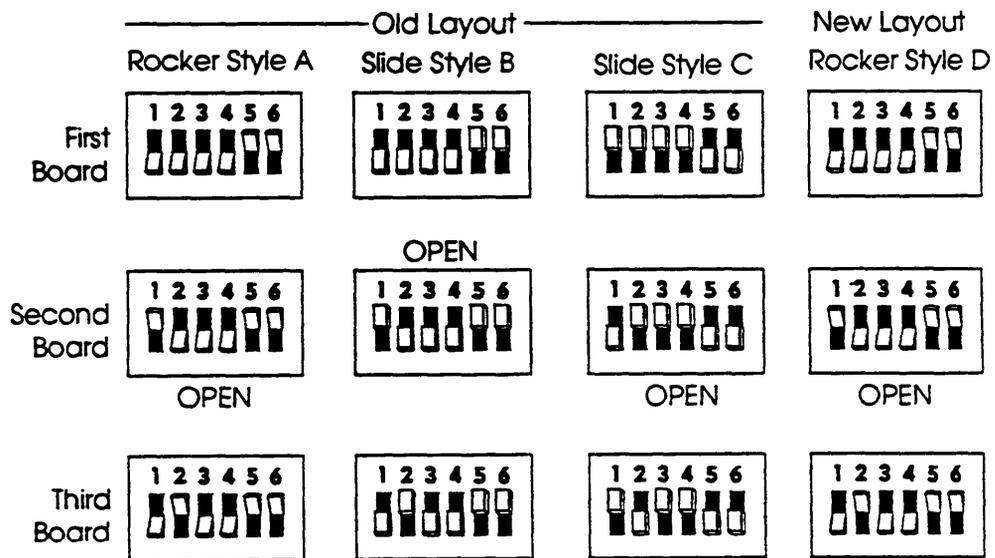

Figure 3-24. Address Switch Settings
All new layout boards (both IVP4 and IVP6) are style D. (See Figure 3-24.)
All old layout IVP6 boards are style C. (See Figure 3-24.)
For old layout IVP4 boards, examine the second bank of switches (SW12.1, on the right, see Figure 3-24):
- If the board has unmarked slide switches, the setting of the second switch (SW12.1) should correspond to one of the settings shown in Figure 3-24. Use the style letter at the top of the column in which the match is found.